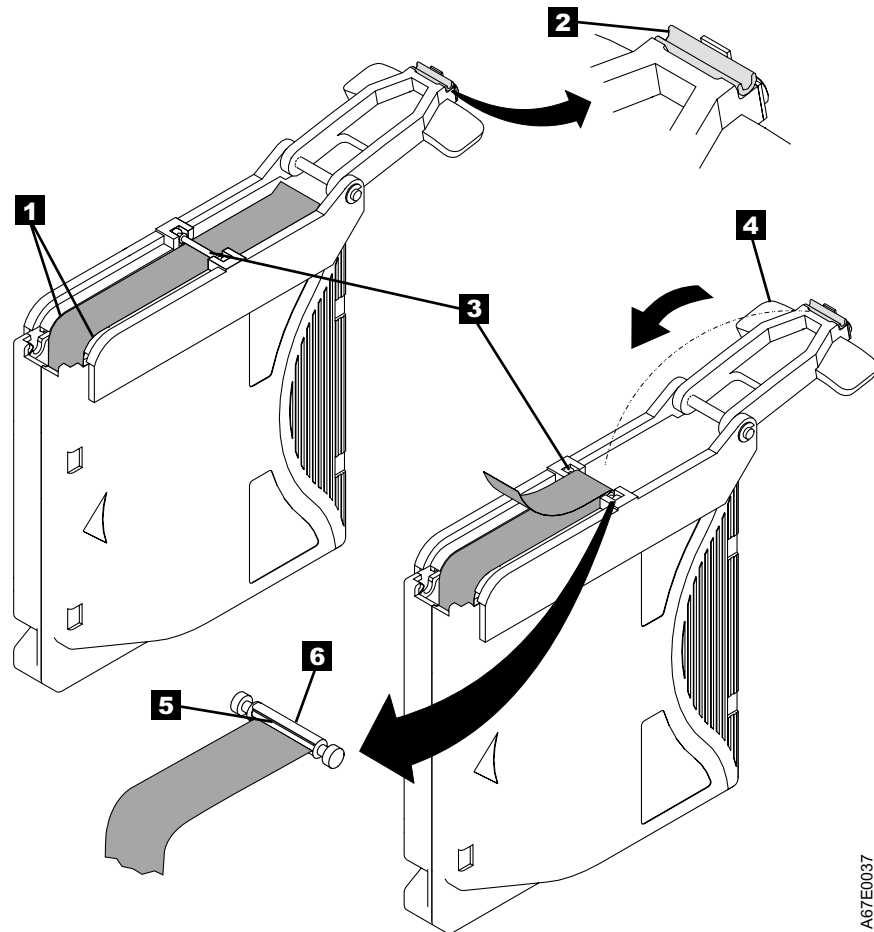

Figure 42. Attaching the Leader Pin to the Tape
7. Position the tape in the alignment groove of the leader pin attach tool (see **1** in Figure 42 on page 171).
8. Place a new C-clip into the retention groove **2** (Figure 42 on page 171) on the leader pin attachment tool and make sure that the clip's open side faces up.
9. Place the leader pin (from step 6) into the cavity **3** (Figure 42 on page 171) of the leader pin attach tool.
10. Fold the tape over the leader pin and hold it with your fingers (Figure 42).